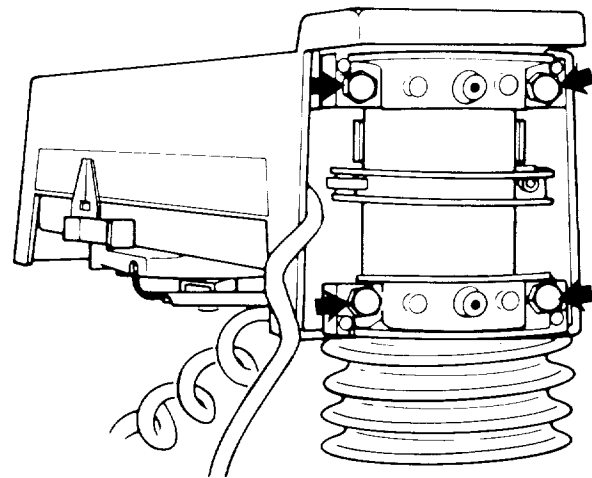

Fig. 134 - Location of Hex Head Tapping Screws
2. With a 9/16 inch wrench or socket tighten evenly the top two 3/8-16 hex head tapping screws. The bottom two screws should also be tightened evenly but not as tight as the top screws. (Figure 134)